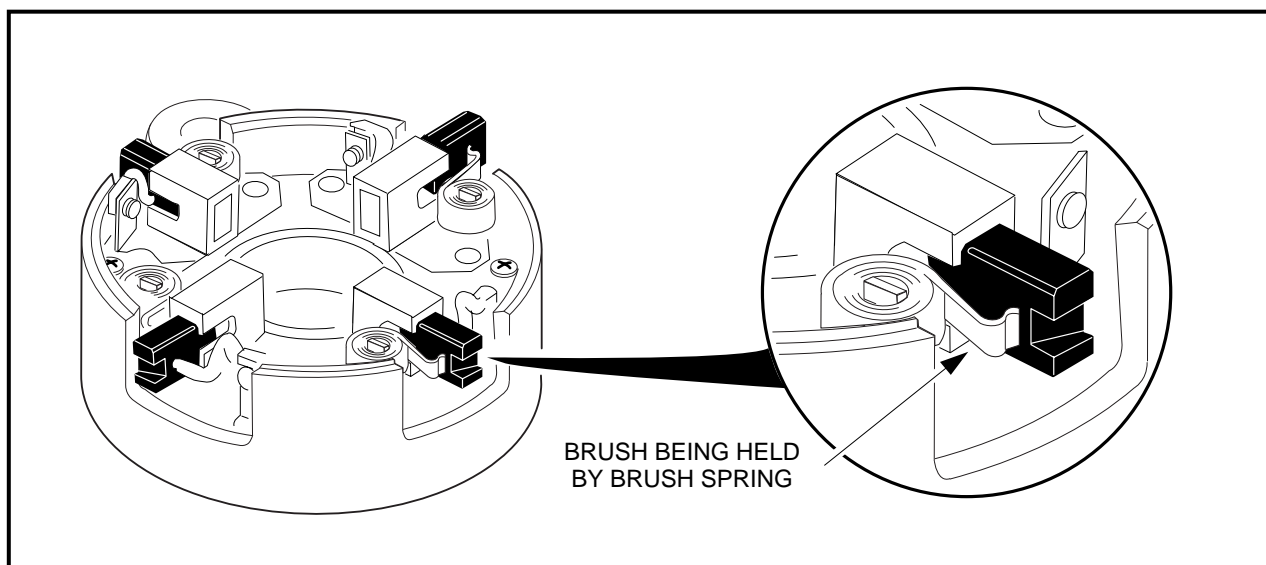

Figure 12-7 Pull Brushes Away From Center of the Commutator End Cover
NOTE: If the brushes are not removed, contact between the brushes and commutator as the commutator end cover is being removed or installed could damage the brushes. Lift the brush springs out of the notches in the brushes and pull the brushes back from the center of the commutator end cover. The springs will rest on the sides of the brushes and help prevent them from sliding towards the center of the cover (Figure 12-7, Page 12-5).
2. To prevent contact between the brushes and commutator as the commutator is installed, and possible damage to the brushes, lift the brush springs out of the notches in the brushes and pull the brushes back from the center of the commutator end cover. The springs will rest on the sides of the brushes and help prevent them from sliding towards the center of the cover (**Figure 12-7, Page 12-5**).
- 1.1. Lift the brush springs out of the notches in the brushes and pull the brushes back from the center of the commutator end cover. The springs will rest on the sides of the brushes and help prevent them from sliding towards the center of the cover (**Figure 12-7, Page 12-5**).
8. To prevent contact between the brushes and commutator as the commutator cover is installed, and possible damage to the brushes, lift the brush springs out of the notches in the brushes and pull the brushes back from the center of the commutator end cover. The springs will rest on the sides of the brushes and help prevent them from sliding towards the center of the cover **(Figure 12-7, Page 12-5)**.